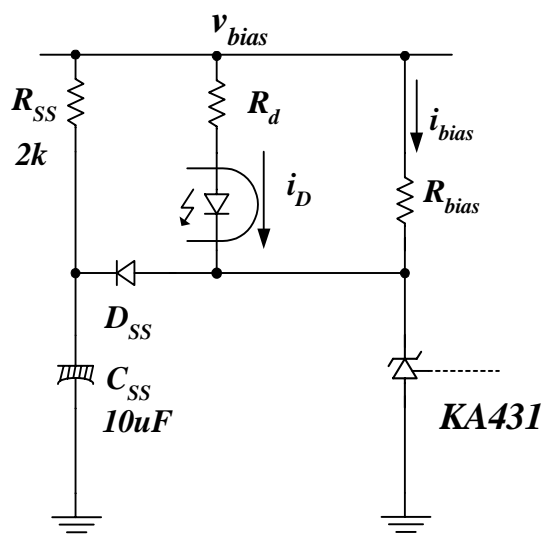
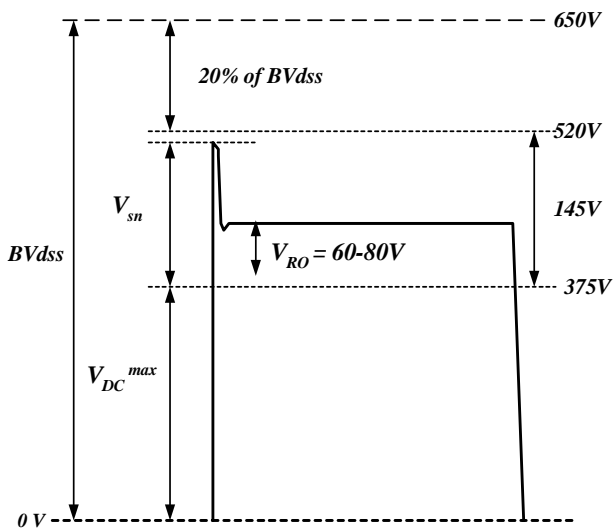

Figure 7. External soft-start circuit
Figure 8. Drain voltage
- If overshoot occurs only during startup, add an external soft-start circuit in the feedback network as shown in Figure 7. This circuit removes the output voltage overshoot by slowly increasing the current through the opto LED.
Figure 8 shows a typical MOSFET drain voltage waveform for the universal input application. Many customers make it a rule to keep the maximum drain voltage under 80% of the BVdss of the MOSFET. When the maximum drain voltage in normal operation exceeds its specification, reduce the snubber capacitor voltage (Vsn) by reducing the reflected output voltage (VRO). VRO can be reduced by decreasing the primary side turns with other winding turns fixed. Because this increases the voltage stress in the secondary side diodes, the voltage stresses on the secondary side diodes should be checked again. The snubber capacitor voltage can also be reduced by decreasing the snubber resistor. However, this method has a limitation, since it increases the loss in the snubber network. It is typical to set the snubber capacitor voltage to be around twice the reflected output voltage as shown in Figure 8. For detailed design equations, refer to the application note AN4137. If the drain voltage exceeds its specification only when it starts up, use the soft-start circuit in Figure 7.